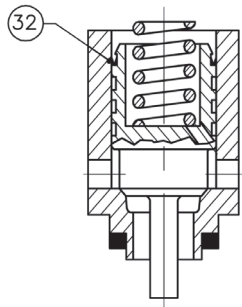
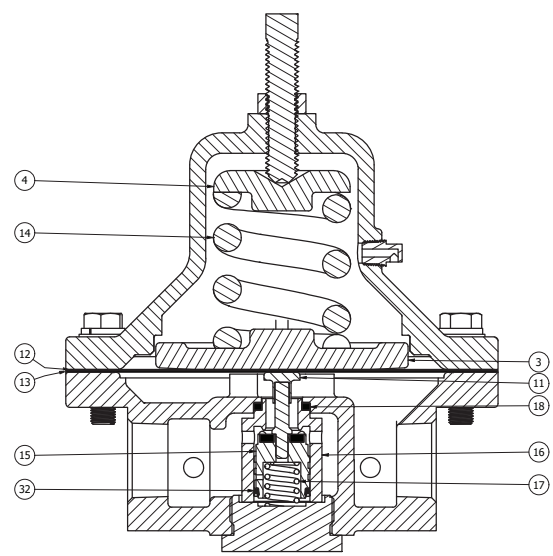

Figure 1: Option-4 - Stabilizer
Figure 2: Basic Model D - Comp Diaphragm
3. Refer to Figure 2 for basic regulator. For blow-ups of Option-4 Stabilizer, refer to Figure 1.
- Reinstall the pusher plate (11). Ensure proper position of flat surface being downwards. Ensure centered.
- Reinstall a new cylinder gasket (18). Press firmly and evenly into place using the cylinder (16). Do not use a "homemade" cylinder gasket.
- Reinstall the cylinder (16) concentrically within the body cap (5) opening.
- If supplied with Opt-4 Stabilizer, install new stabilizer seal (32) properly oriented onto piston (15). See Figure 1.
- Slide the piston (15), including stabilizer seal (32) if supplied, slowly into place, assuring that the piston post slides into the female groove of the pusher plate (11). Use thumbs to ease stabilizer seal into cylinder (16).
- Place piston spring (17) into piston (15) cavity.
- Use pipe thread sealant applied to the body cap (5) threads. Thread body cap into body (1) as tight as possible by hand, then tighten to the following torque values.